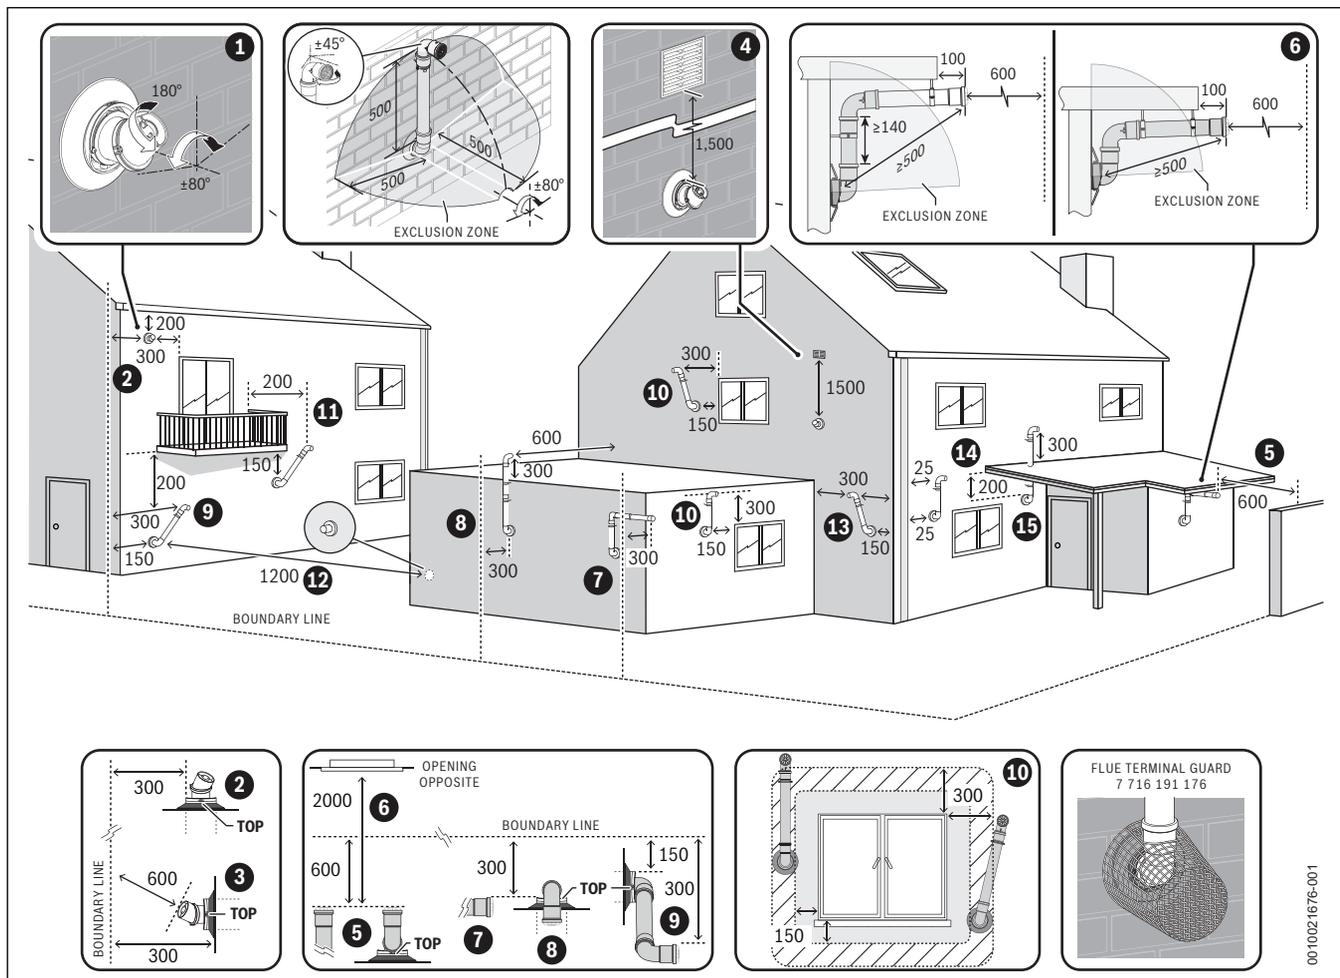

Fig. 28 Plume re-direct and plume management terminal positions
- ▶ Refer to “Horizontal flue terminal positions” for all concentric flue terminal positions unless the flue position is specified in figure 28 “Plume re-direct and plume management terminal positions”.
Key to figure 28 - Plume re-direction terminal positions:
Key to figure 28 - Plume management terminal positions: